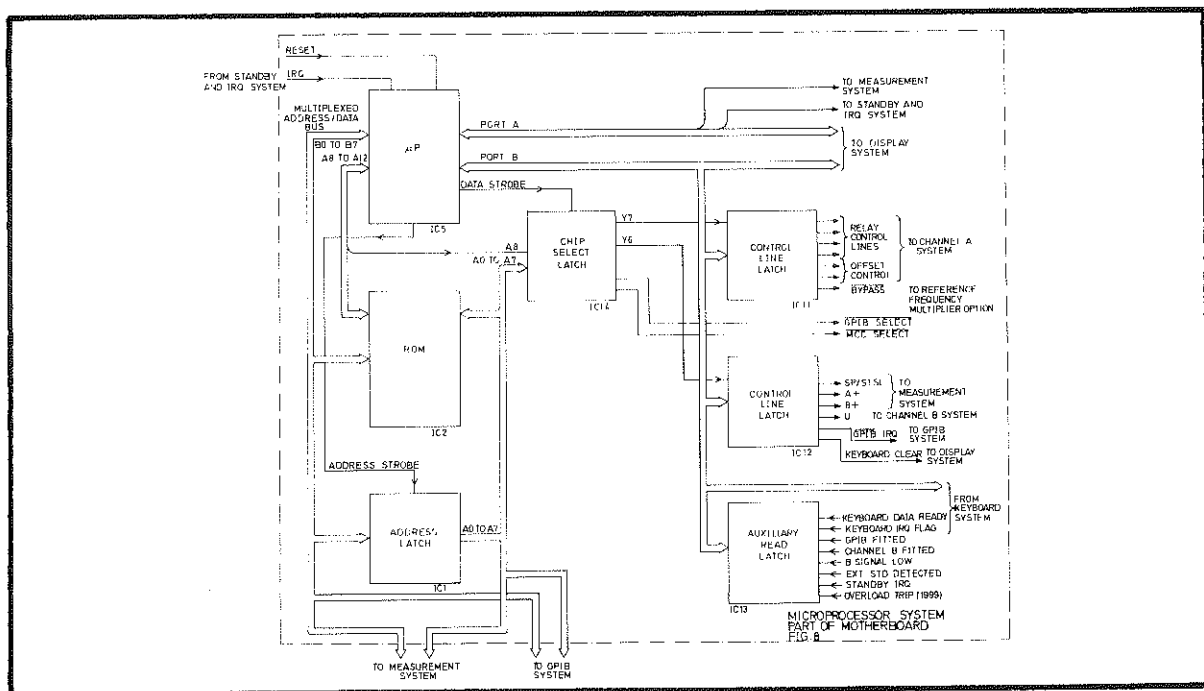

Fig 6.9 The Microprocessor System
- 77 A block diagram of the system is given in Fig 6.9. The microprocessor used has a 5-bit bus for the high-order address bits and an 8-bit multiplexed bus for the low-order address bits and for data. The low-order address bits are strobed into the address latch, which holds them on an 8-bit address bus, to free the multiplexed bus for data.